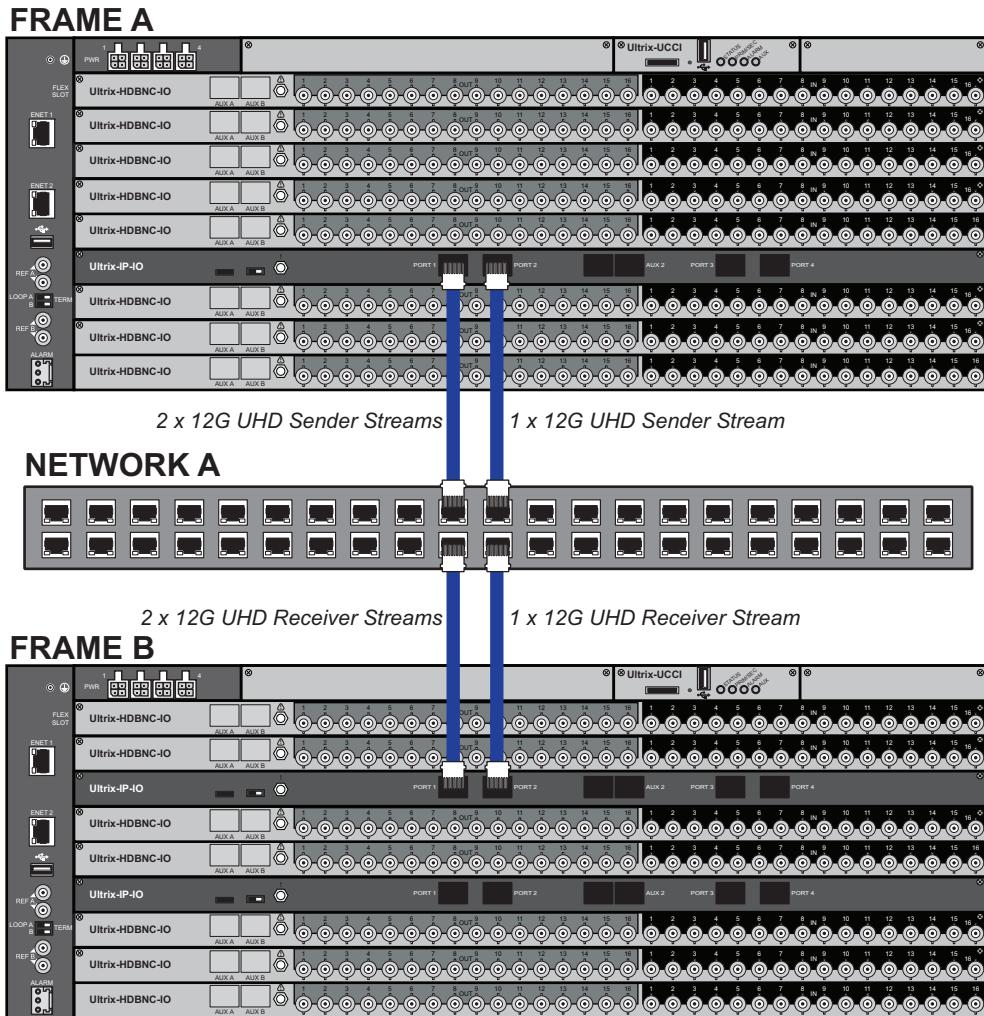

Figure 34 Example of UTRIX-IP-IO with 12G UHD Video Streams
**Figure 34** shows two UTRIX-FR5 routers with one (Frame A) transmitting three 12G UHD video streams and the second router (Frame B) receiving three 12G UHD streams.